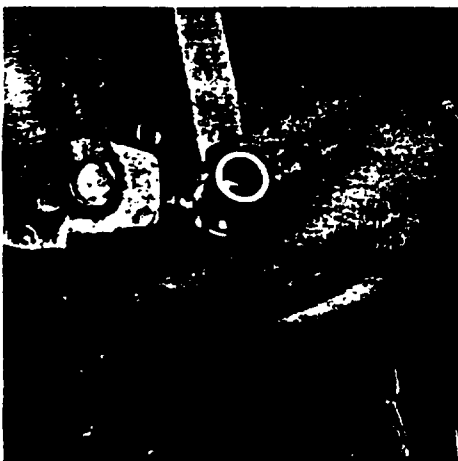

Figure 2-268 . Applying Lapping Compound
a. If the seat surface has burrs or nicks, it must be lapped. Place valve lapping compound on plunger seat. See Figure 2-268 .